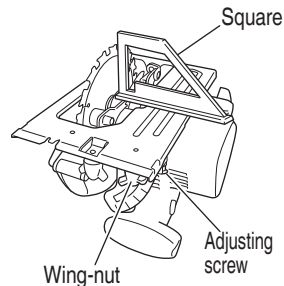

Fig. 18
- (1) Turn the base face up (Fig. 18) and loosen the wing-nut.